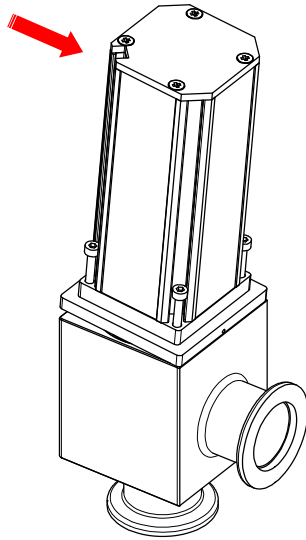

Figure 6-4
9. Remove the four actuator screws (22).
10. Gently tilting the valve insert, like shown in the figure «Figure 6-4» on page 18. (tilt movement from compressed air connection side only). Tilting the valve insert in other directions might scratch the sealing surfaces.
12. Remove the gate seal (61), by using an O-ring removal tool.
13. Remove bonnet seal (62), by using an O-ring removal tool.
14. Remove bonnet seal (62), by using an O-ring removal tool.